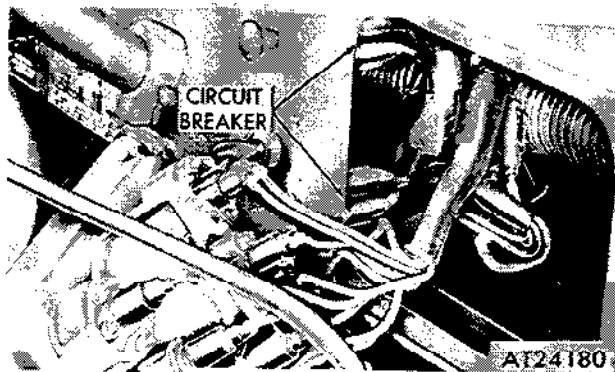

Figure 2-249. Disconnecting or connecting circuit breaker connectors on M151A2, M825, and M718A1 vehicles.
(21) Reach inside just to left of cluster opening and disconnect four connectors for the two circuit breakers (fig. 2-249).
g. Circuit Breakers on M151A2, M825, and M718A1 Vehicles. Two circuit breakers, both mounted inside the dash just left of instrument cluster (fig. 2-249), protect various electrical circuits. The top one protects the temperature indicator, fuel gage and oil pressure gage. The bottom one protects the horn circuit. A third breaker, integrated into the light switch assembly, protects the vehicle's lighting circuitry.